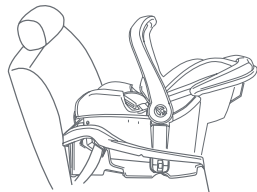

Fig. 51-1
**1. Safety Seat with Base:** Make sure the vehicle is parked on level ground. Lock the Safety Seat onto the Base and check that the Safety Seat is level side to side on the vehicle seat (Fig. 51-1). Check the Seat Angle Indicator that matches the weight of your child.